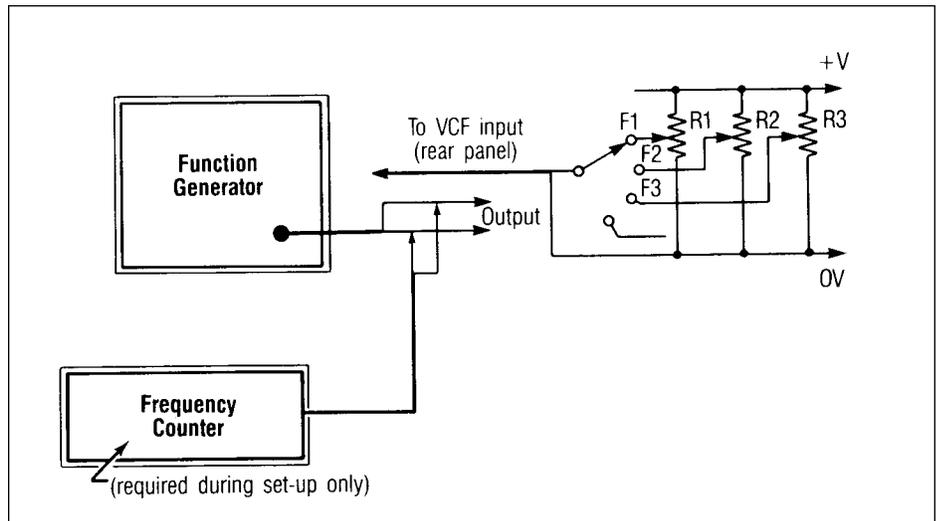

Fig. 18. Preset frequency selection.
In test and design work where several frequencies are to be used repeatedly, it is convenient to be able to preselect these frequencies with a minimum of effort. As shown in Fig. 18, the VCF feature of many function generators can be used together with preset voltages and a frequency selector switch.
1. Construct the circuit shown in Fig. 18. The voltage labeled "+V" should be a regulated voltage at or near the maximum safe input to the VCF input jack as recommended by the manufacturer. This limit indicates the voltage value required for maximum frequency spread on a given range. Note: applying a higher voltage will most likely damage the generator, and usually won't provide greater frequency coverage anyway.